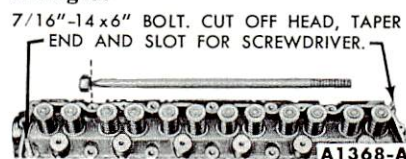

FIG. 18—Cylinder Head Guide Studs
10. Remove one cylinder head bolt from each end of the head at opposite corners and install the cylinder head guide studs (Fig. 18). Remove the remaining cylinder head bolts and remove the cylinder head. **Do not pry between the cylinder head and block as the gasket surfaces may become damaged.**